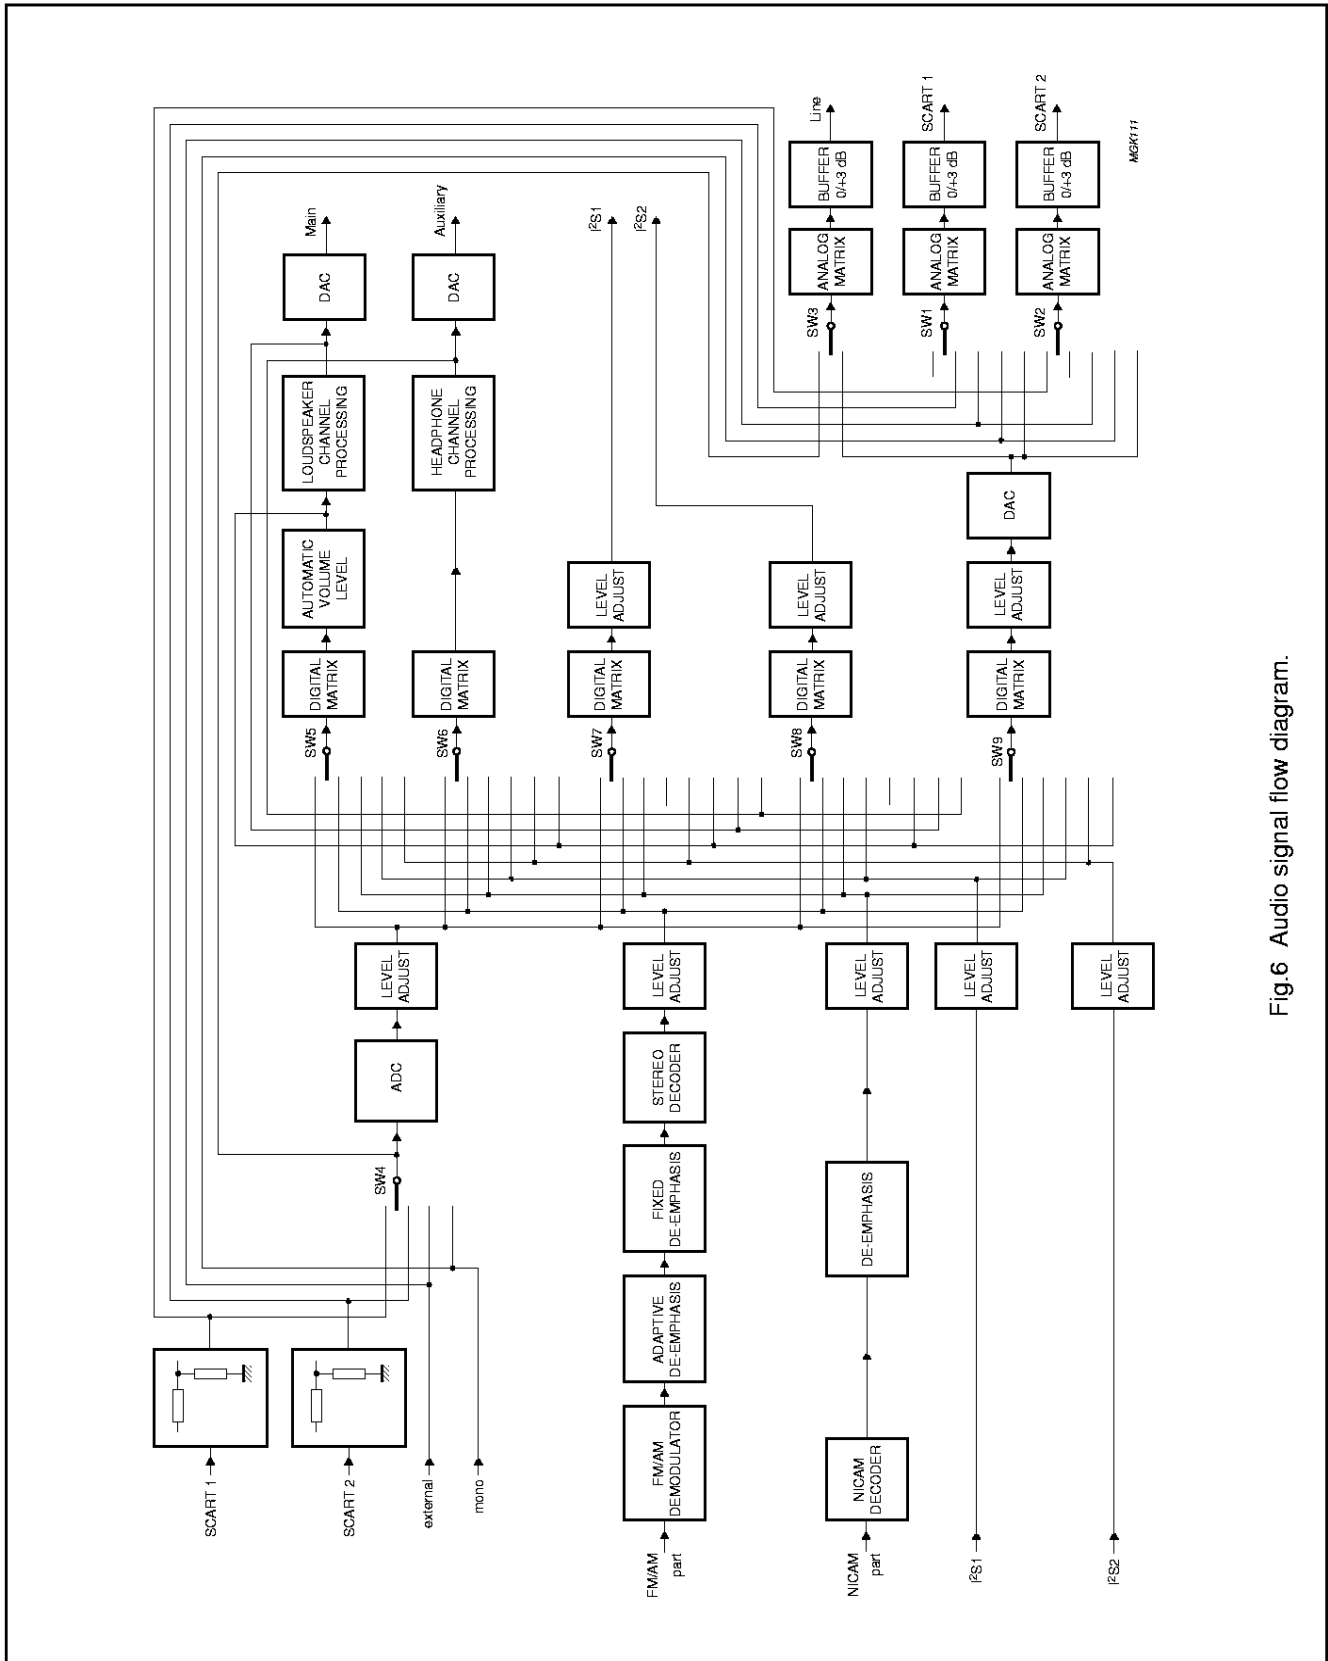

Fig.6 Audio signal flow diagram.
6.3.1 ANALOG CROSSBAR SWITCH AND ANALOG MATRIX (see also Fig.6)